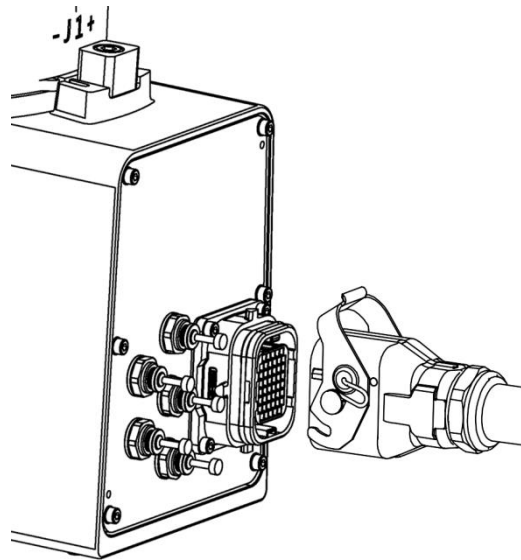

Figure 5-6 Manipulator heavy load line connection interface
- Step1. Connect the manipulator, insert one end of the heavy-duty line plug into the heavy-duty line connection port of the manipulator (see Figure 5-6), and fasten the lock.